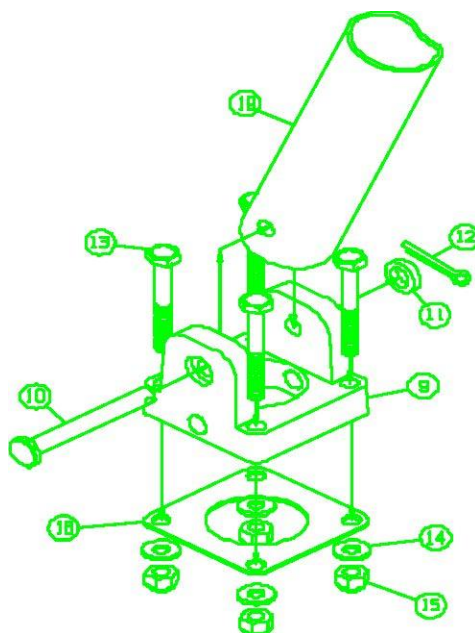

FIGURE 5
D. Slide the completed assembly up the backstay and insert the Mounting Pole (19) into the hole between the Mid Spacer (4) and the Pivot Base Cone (7) and secure it by lightly tightening the bolts (6).
E. Attach the Pole Base (9) to the lower end of the Mounting Pole (19) using the Clevis Pin (10), Clevis Pin Washer (11), and Cotter Pin (12). Place the Pole Base on the deck forward of the backstay (configuration #1 and #3) or aft of the backstay (configuration #2 and #4). Place the Pole Base on the deck (forward or aft) of the backstay so the distance between the backstay and the Mounting Pole is approximately 1-1/4". The Mounting Pole should now parallel the backstay and the Clevis Pin (12) should be athwartships. The Pivot Base Assembly should be located on the boats fore and aft centerline.
F. Using the Backing Plate (16) as a template, insert it under the Pole Base and mark the four screw holes on the deck.
G. Remove the Pole Base (9) and the Mounting Pole (19) from the Pivot Base by loosening the Allen Cap Screws (6). Slide the Base Assembly down the backstay until it rests on the backstay turnbuckle.
I.....Apply adequate bedding compound to the Pole Base (9) and secure the Pole Base using four Hex Head Bolts (13), Backing Plate (16), four Flat washers (14), and four Self Locking Nuts (15) through the Pole Base and deck. (Figure 5)